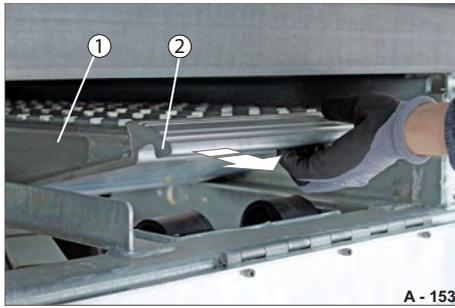

Fig. 163 Pulling out ramp planks
- ▶ Grab below the groove (Fig. 163/2) and pull the ramp planks (Fig. 163/1) out a bit.